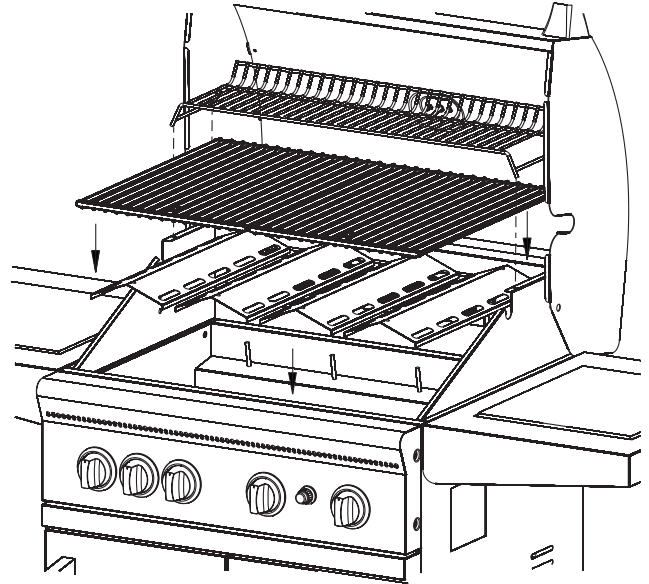

Figure 7
13. Place flame tamers over burners. Pins on burner box fit through holes on flame tamer. See Figure 7.
14. Place cooking grids into grill. See Figure 7.
15. Place warming rack on top of grill body side walls. See Figure 7.